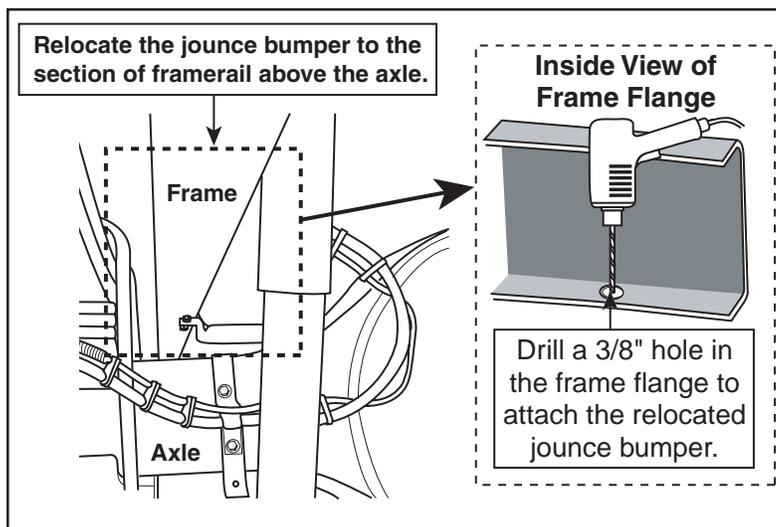

Figure 6
2. Drill a 3/8" hole above the axle, in the bottom of the frame flange (Figure 6).